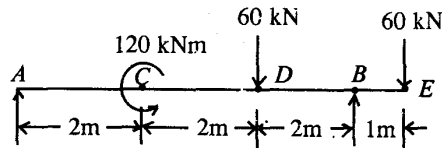

Fig.1
2. (a) Construct the bending moment and shearing force diagrams for the beam shown in Fig. 1, and mark the values of important ordinates. 12